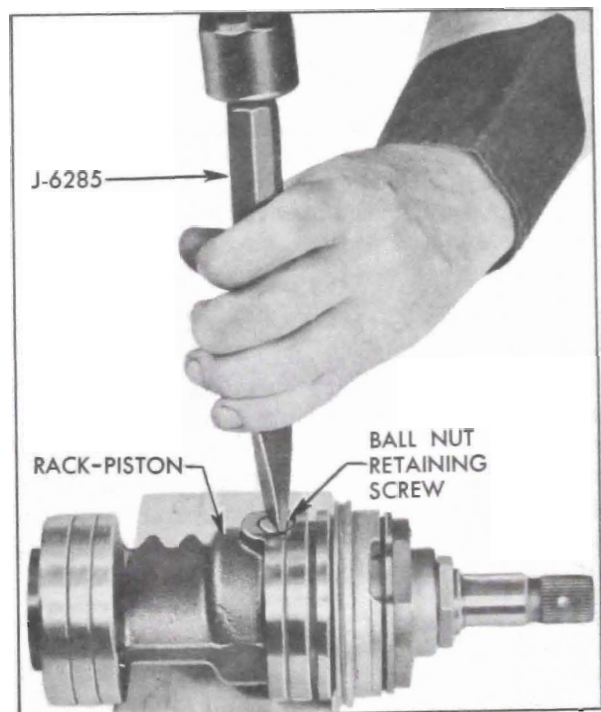

Figure 8-34—Staking Ball Nut Retaining Screw
9. Install the ball nut retaining screw using Screw Adapter J 6223 and tighten to 30 to 35 ft. lbs. Stake screw securely using Staking Tool J 6285. See Figure 8-34.